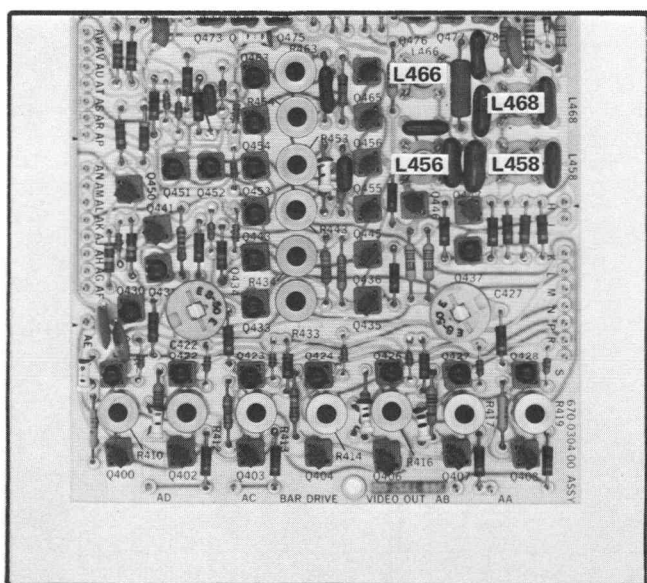

Fig. 5-29. Bar Drive and Video Out board adjustment locations for steps 26 and 30.
f. ADJUST—L466 and L456 (see Fig. 5-29) for a risetime of 115 ns within 15%, with less than 2% aberrations.